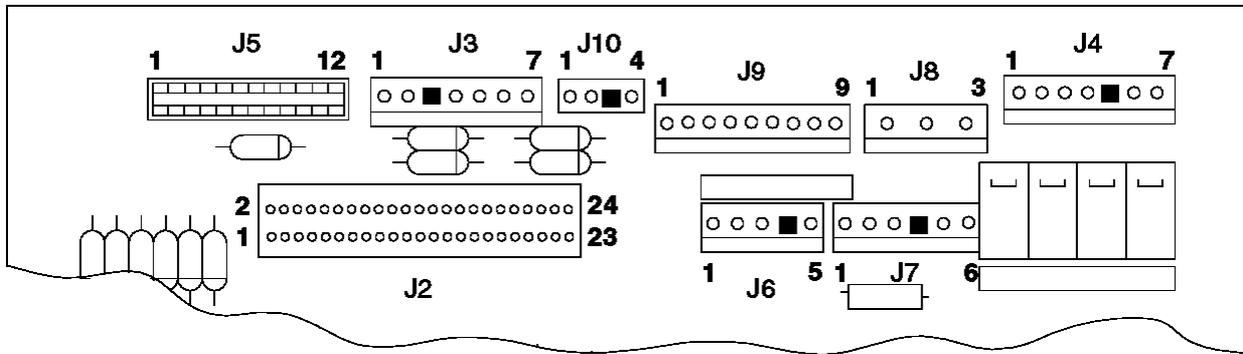

Figure 6-29. Printer Card Connections
- Check the print head cable to ensure it is correctly installed in cable connector J5. See Figure 6-29.